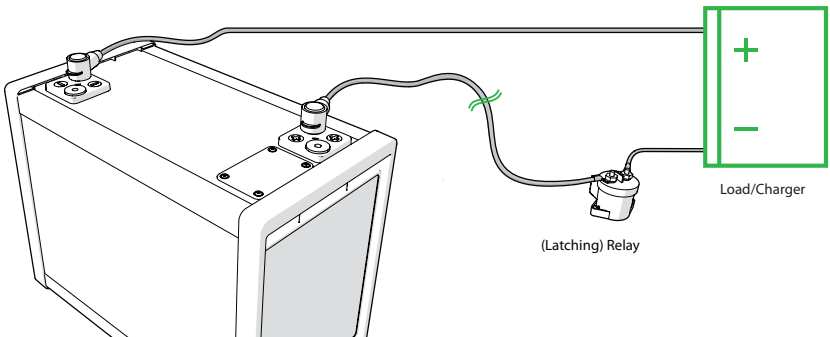

Figure 8. Securing the terminal covers
6. Place the terminal covers over the terminals (Figure 8).